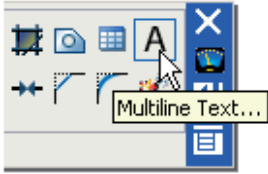

Fig. 6.35 The **Multiline Text** tool icon from the **2D Draw control panel**
1. Either *left-click* on the **Multiline Text** tool icon in the **2D Draw control panel** (Fig. 6.35) or *click* on **Multiline Text . . .** in the **Draw toolbar** or *enter t* at the command line: